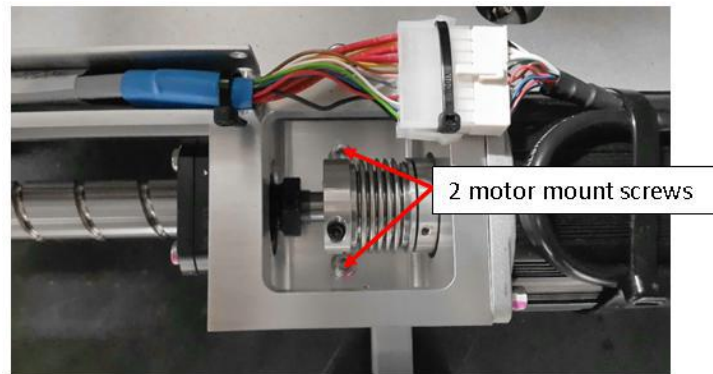

Figure 19 Motor Mount Screws
21. Tighten back the 2 screws of the motor mount as below Figure 19.